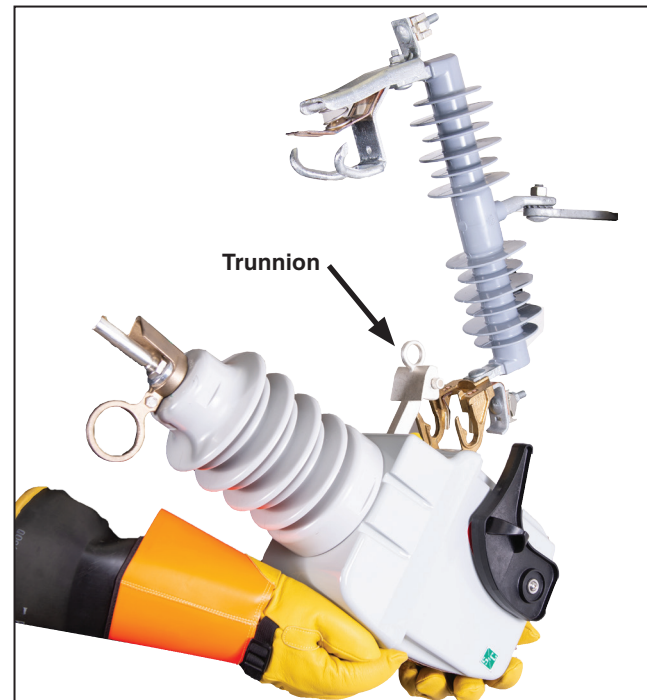

Figure 4. Carefully lift the trunnion out of, or place the trunnion into, the hinge-end contact.
- STEP 2.** Use appropriately rated insulated gloves. With the OPEN/CLOSE lever in the **Open** position, insert the VacuFuse interrupter into the cutout mounting with gloved hands, as shown in Figure 4. Guide the trunnion into the hinge of the cutout mounting. Close as described in the “Closing the VacuFuse Interrupter into the Cutout Mounting” section.
- STEP 2.** Using appropriately rated insulated gloves, remove the VacuFuse interrupter from the cutout mounting with gloved hands. See Figure 4.